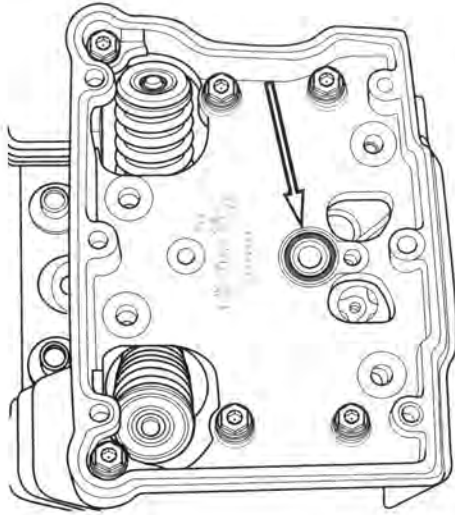

Figure 3-16. Breather Baffle Hole O-Ring
6. See Figure 3-16. Remove and discard breather O-ring from rocker housing.